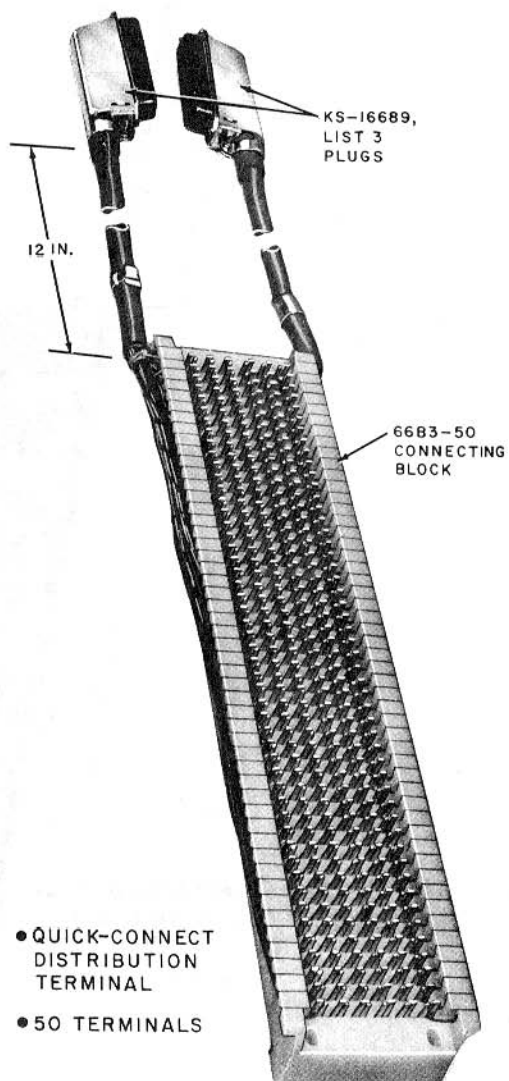

Fig. 5—66B3-50C Connecting Block
1.05 The 66B3-50C connecting block (Fig. 5) replaces the F-57001 connecting block, and the 66B4-25C (Fig. 6) replaces the F-57000 block and can be used in place of the F-56999 block. These new blocks are the same as the F-Spec